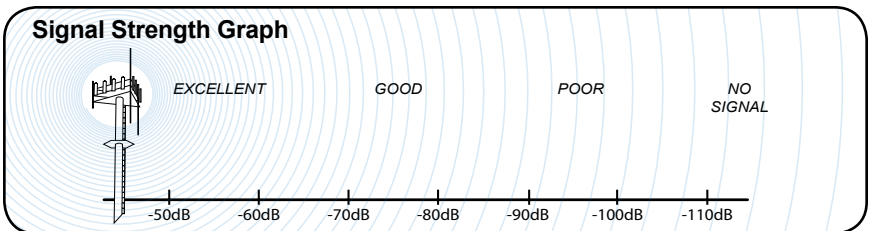

Figure 1
Select a location on the roof of the building to install the Outside Antenna. Use a cell phone in test mode to find the strongest signal from the cell tower. See below for more information. To get the strongest signal possible, it is very important to set up your Outside Antenna properly. The Inside and the Outside Antenna must be mounted in such a way that they are able to pick up the best possible cell signal on the outside of the building and provide the best possible signal on the inside of the building. Mount the Outside Antenna as high as possible facing the cell tower in an area with the best possible signal coverage. **Note:** *Never point the front of a directional antenna toward the Inside Antenna. See Figures 1 & 2 on page 12.*
1. Never point the front of a Directional Outside Antenna toward the Inside Antenna. See Figures 1 & 2 on page 12.